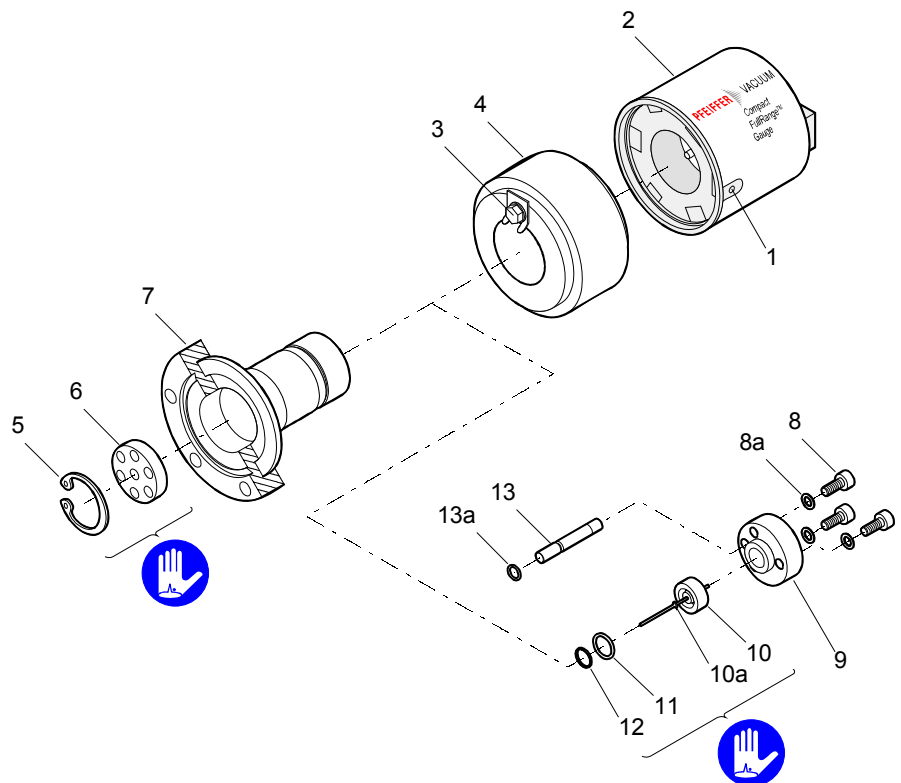

Figure 2
- 1 Remove the old ignition aid (10a), for example with tweezers (→ Figure 2).
- 1 Insert the FPM seal (11) with the support ring (12) centered into the measuring chamber (7). The sealing surface, seal, and ceramic part must be clean (→ Figure 2).
- 2 Carefully insert the anode (10) incl. ignition aid (10a) into the measuring chamber.
- 3 Insert the Pirani element (13) with the FPM seal (13a) slid over it into the corresponding bore hole.
- 4 Carefully place the pressure piece (9) on the measuring chamber and tighten them with the three hexagon socket screws (8) incl. lock washers (8a) uniformly until the stop position is reached.
- 7 Slide the polarity insert (6) into the measuring chamber until the mechanical stop is reached.
- 8 Place the circlip (5) snugly fitting on the polarity insert.